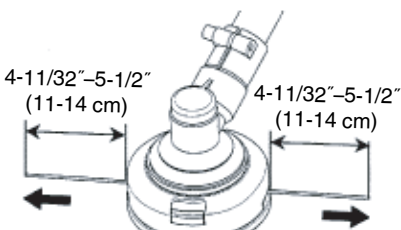

Fig. 42
- (7) The initial cutting line length should be approx. 4-11/32"–5-1/2" (11–14 cm) and should be equal on both sides. (Fig. 42)